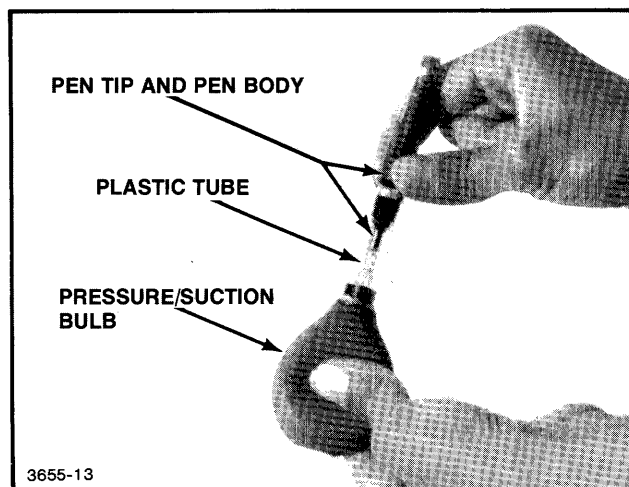

Figure E-12. Starting Ink Flow with the Pressure/Suction Bulb.
- Squeeze the pressure/suction cleaning bulb slightly and insert the tip of the pen into the bulb. When the tip is seated into the bulb, release it. This applies suction on the pen and sucks ink into the tip (see Figure E-12).